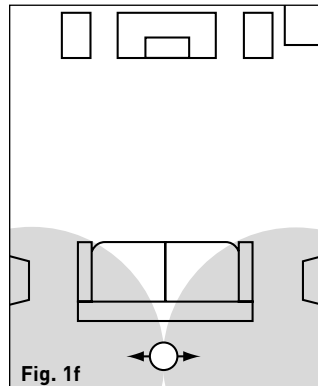

Fig. 1f
7.1 Rear Placement Using One P80-SM Speaker (Fig. 1f)